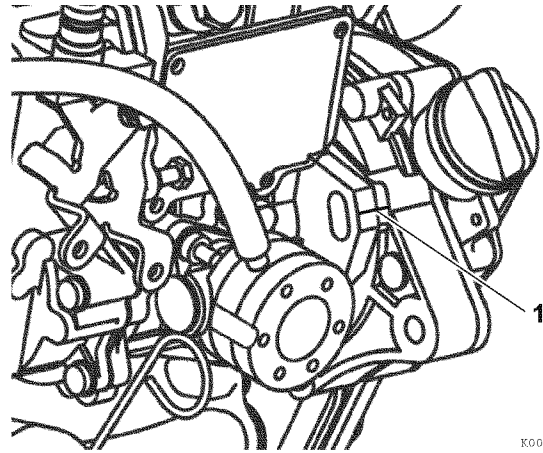

Figure 7-20
19. Locate the mark (Figure 7-20, (1)) stamped into the upper outside mounting boss of the fuel injection pump. Highlight this mark and make a corresponding mark on the gear case or front plate (3TNV74F, 3TNV80F).